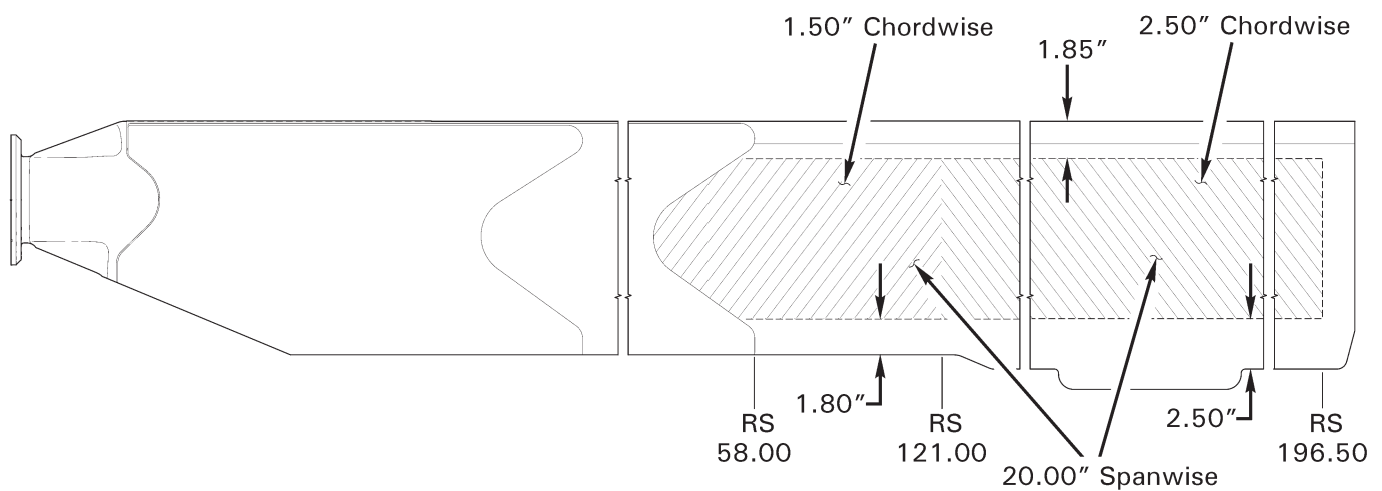

FIGURE 62-20 HONEYCOMB - VOID AND DEBOND LIMITS
1. Refer to Figure 62-20. Verify damage does not exceed the following limits: